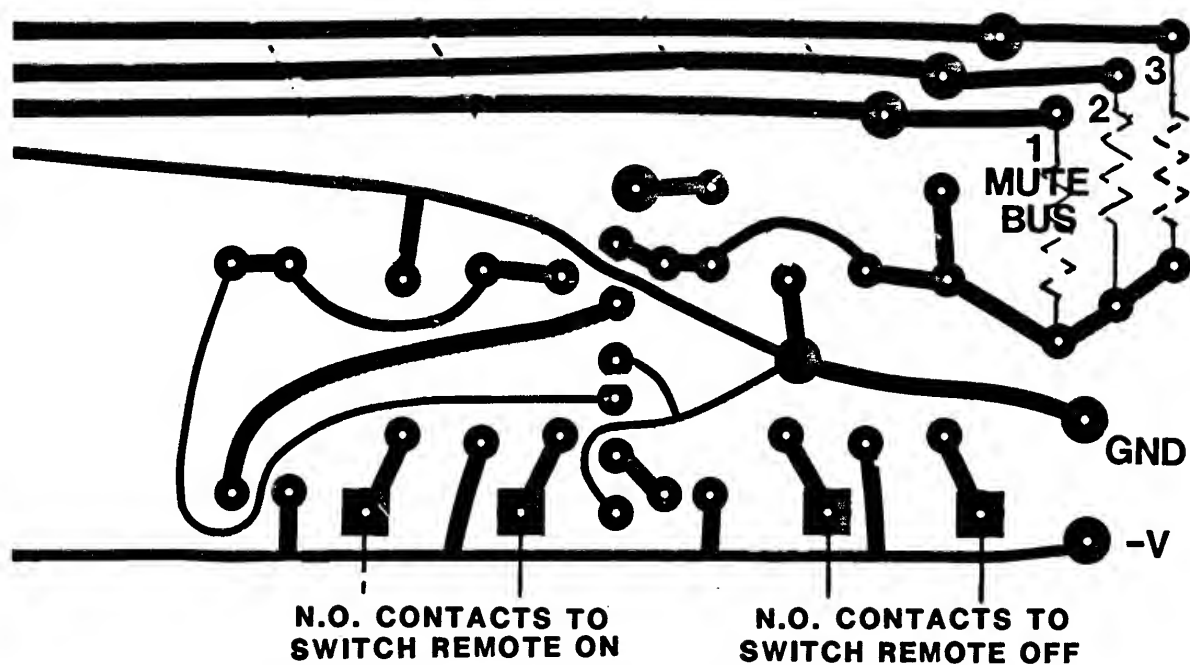

FIG. 2-4
- 4) Refer to Fig. 2-4. Note that each mix position has locations for three resistors on the underside of the board -- one for each mute buss. These resistors will be referred to as R1, R2 and R3. As supplied from the factory, resistor R1 is placed in Mix Position 1 to activate Mute Buss 1; R2 is located in Mix Position 2 to activate Mute Buss 2; and R3 is located in Mix Position 3 to activate Mute Buss 3. The resistor values are 10k ohm $\pm 10\%$ 1/2 watt.
An additional set of normally open contacts are included on all of the pushbutton switches to allow remote control start/stop of turntables, cartridge or reel-to-reel tape machines, etc. Wiring for these is shown in Fig. 2-4. Maximum current capacity of these switch contacts is 500 mA; larger currents should be controlled by external relays which may be fired by these push-buttons. Shielded cable should be used for all remote start/stop wiring because of the possibility of radiating switching pulses into the console's audio circuitry.